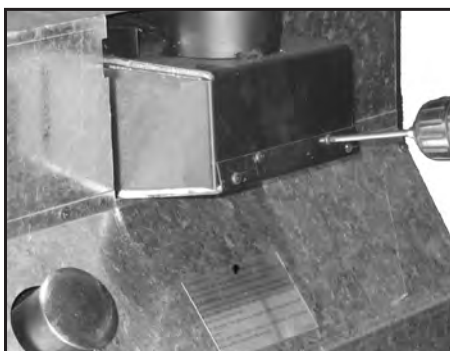

Figure 36: Remove Flue Slider Plate & Gasket.
- Using a T-20 screwdriver remove the four (4) screws that hold the flue slider bottom plate. Pull the plate down then out, ensuring that the gasket comes with the plate (see Figure 36).